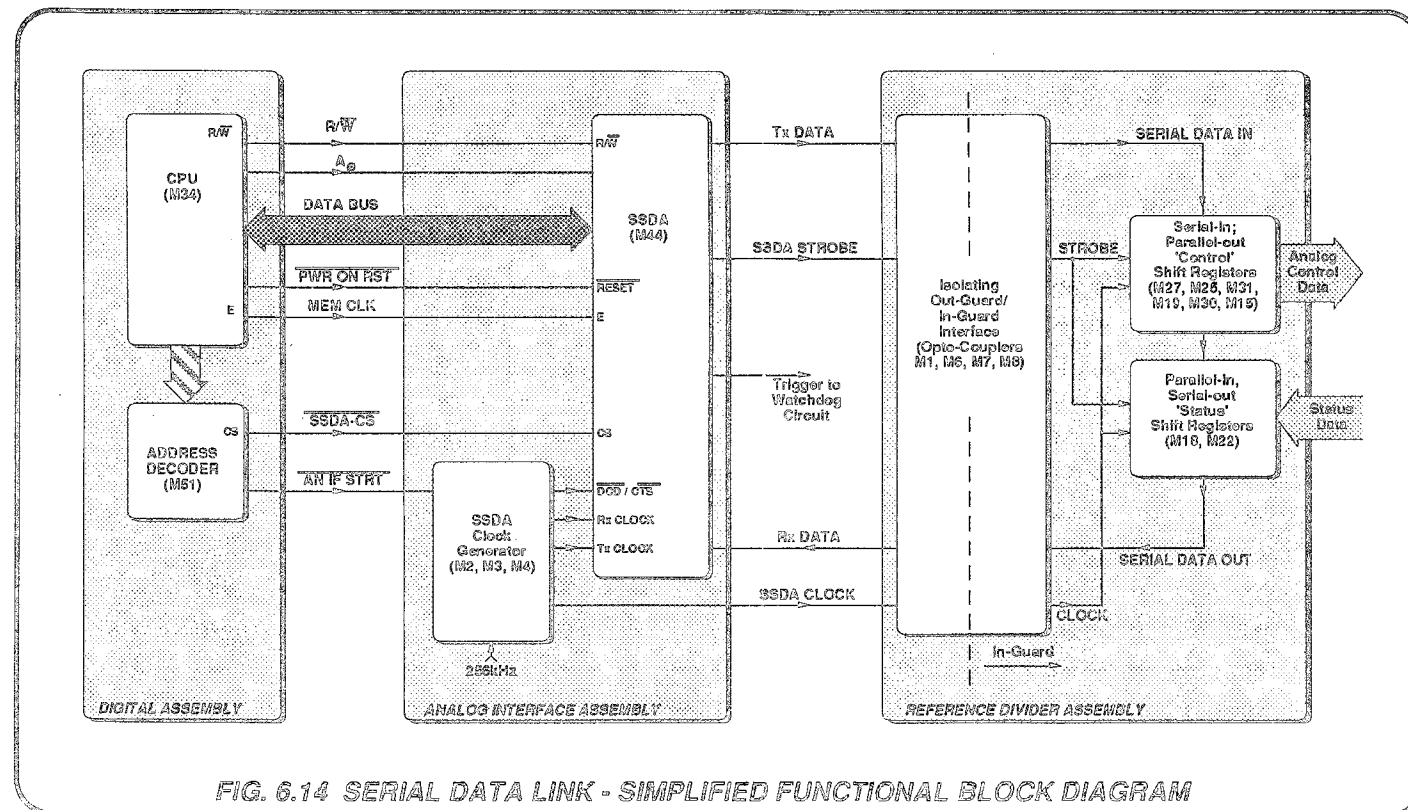

FIG. 6.14 SERIAL DATA LINK - SIMPLIFIED FUNCTIONAL BLOCK DIAGRAM
- Provides a two-way interface via a serial data link between out-guard digital processing and in-guard analog control circuitry on the reference divider assembly (see Fig. 6.14).
Certain selected 'Status' signals, originating in the analog assemblies, are returned to the CPU during the data transfer. Thus, the data link forms a continuous loop, as shown in Fig. 6.14.
(Circuit Diagrams: 430796 Page 11.2-2, 430648 Page 11.3-3, 430652 Pages 11.4-4 and 11.4-5 and Fig. 6.14)
(Fig. 6.14)